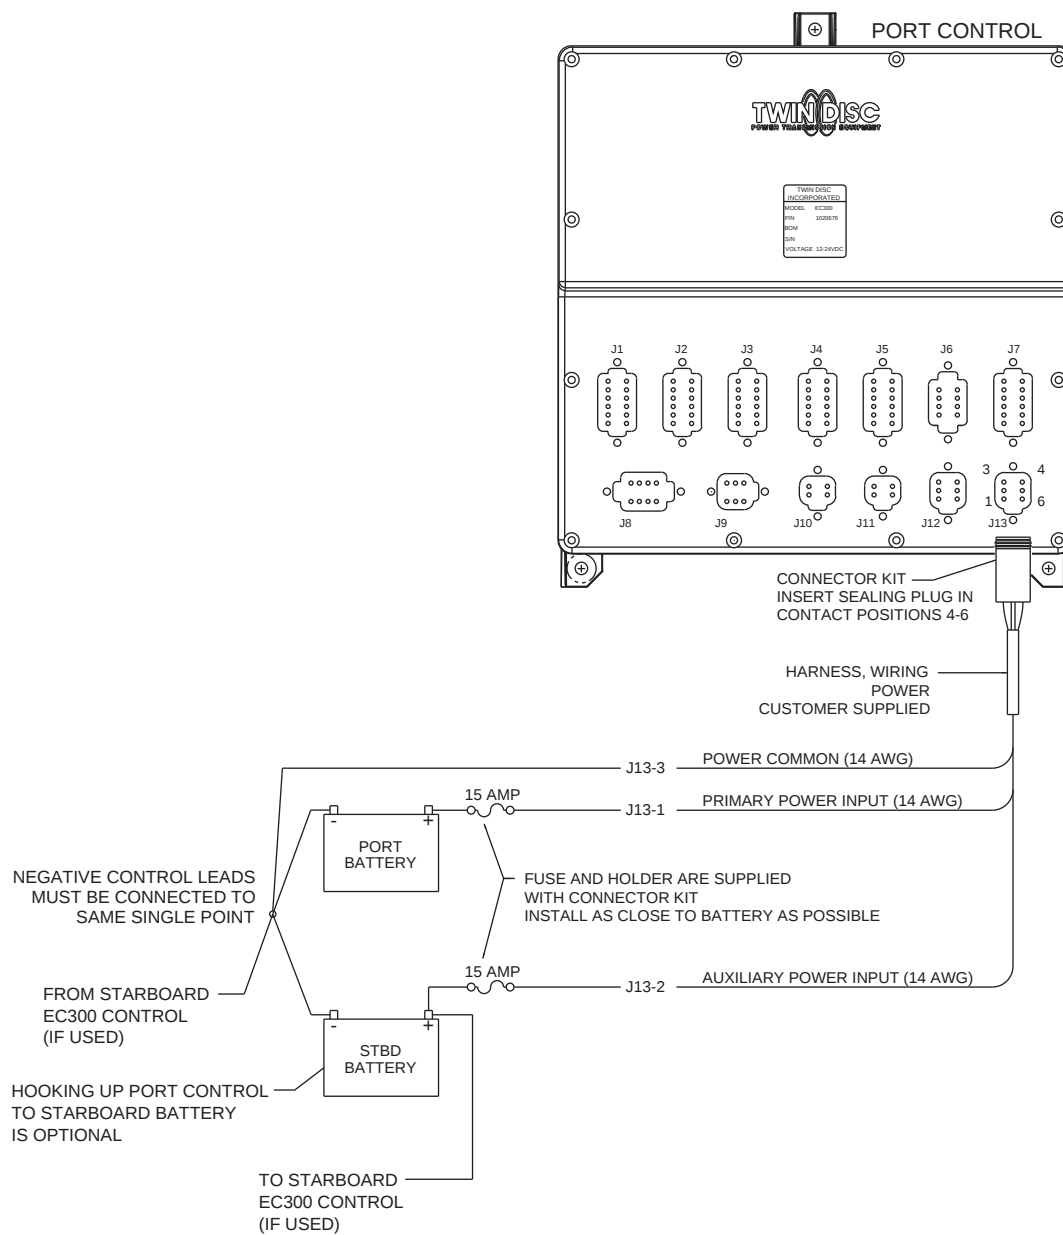
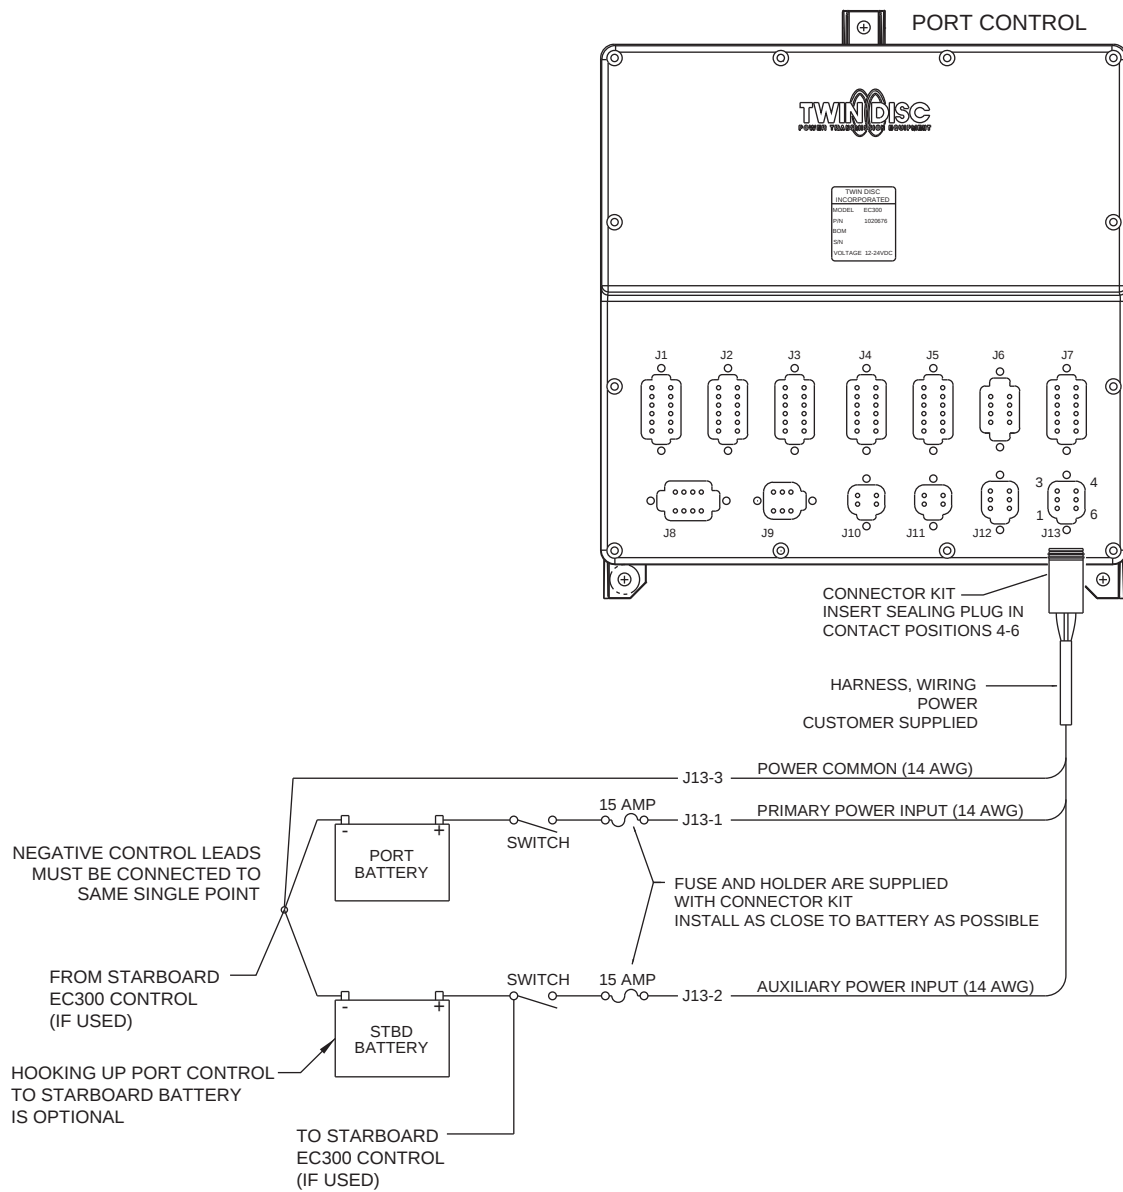

Figure 51. Power Wiring Diagram for Unswitched Engine Powering Applications
Figure 52. Power Wiring Diagram for Switched Engine Powering Applications
Install the control power wiring as follows (See Figure 51 and Figure 52):
Note: Figure 51 and Figure 52 show auxiliary batteries as is required by certain codes and standards. If redundant (port and starboard) batteries are present, then use the port battery for the port controller's main battery connection on J13 pin 1. Use the starboard battery for the auxiliary connections on J13 pin 2. Reverse the connector assignments for the starboard EC300 Control.
Note: Figure 51 and Figure 52 both show two single batteries. This is typical for 12 VDC systems using 12 VDC batteries. The 24 VDC system typically connects two 12 VDC batteries in series to obtain 24 VDC. 6 VDC batteries can also be connected in series to achieve either 12 VDC or 24 VDC. Batteries can also be connected in parallel in order to increase the available battery current. Using a multimeter, test the voltage of each battery and across all batteries if multiple batteries are used so as not to exceed the voltage limits for the EC300 Control.
9. Assemble the J13 Deutsch Mating Connector (P/N DT06-6S-P012). See Figure 51 and Figure 52.